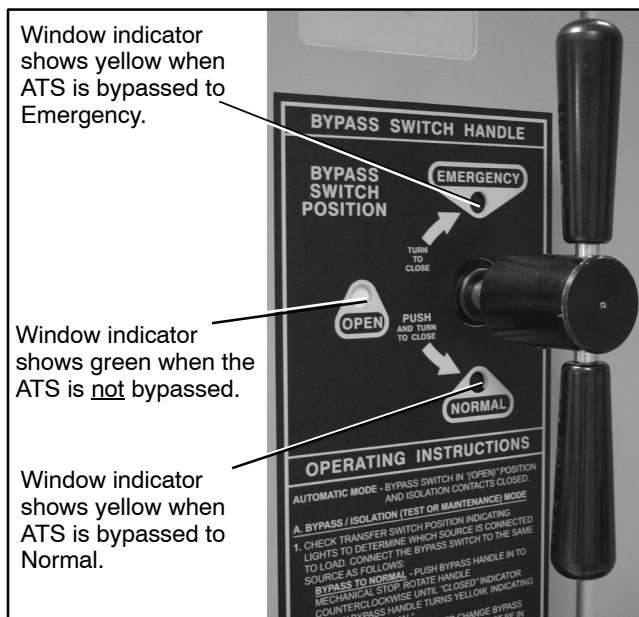

Figure 7-29 Bypass Handle and Three Position Window Indicators
- The bypass switch handle must be in the OPEN position (green window indicator). See Figure 7-29.